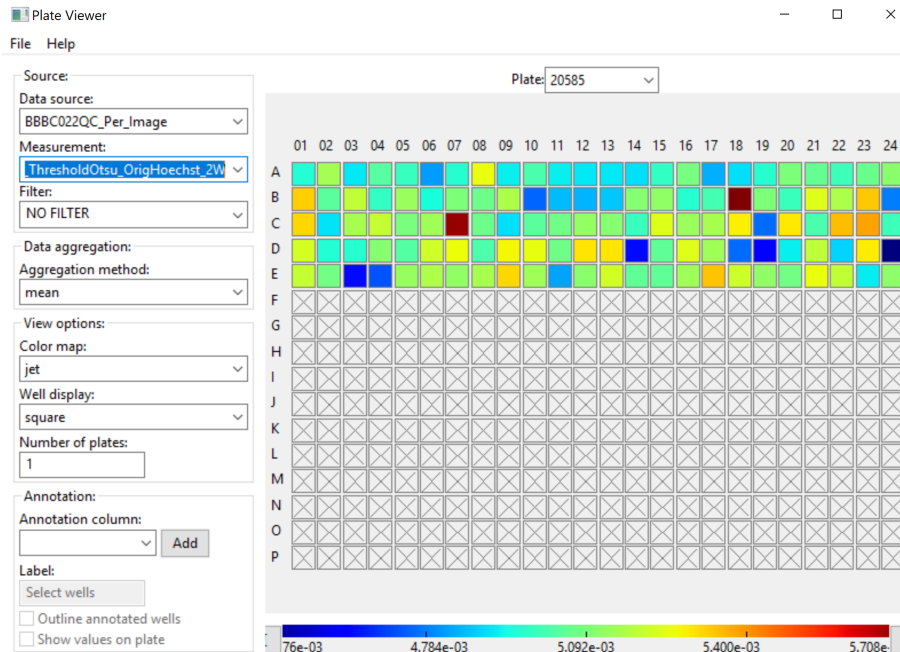

Figure 2: Using the PlateViewer tool to find features that may be good markers of poor quality images.
- A good candidate measurement will be relatively constant within most of the wells but have a small number of outliers (Fig 2).